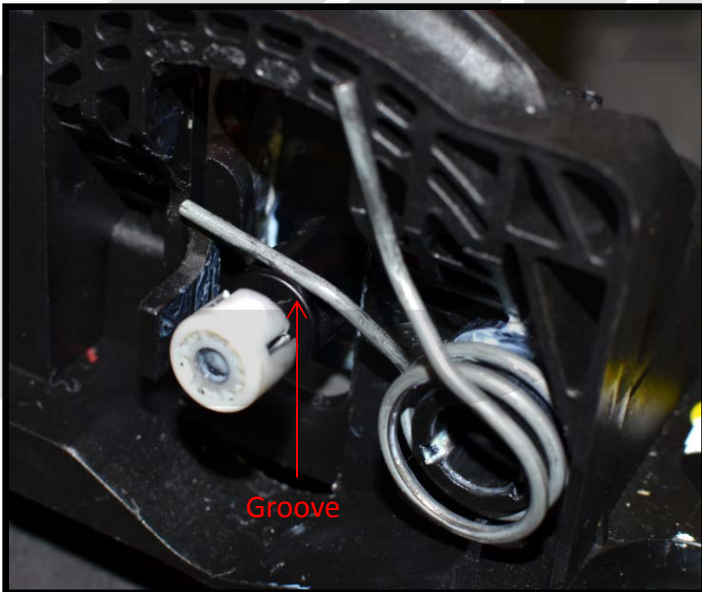
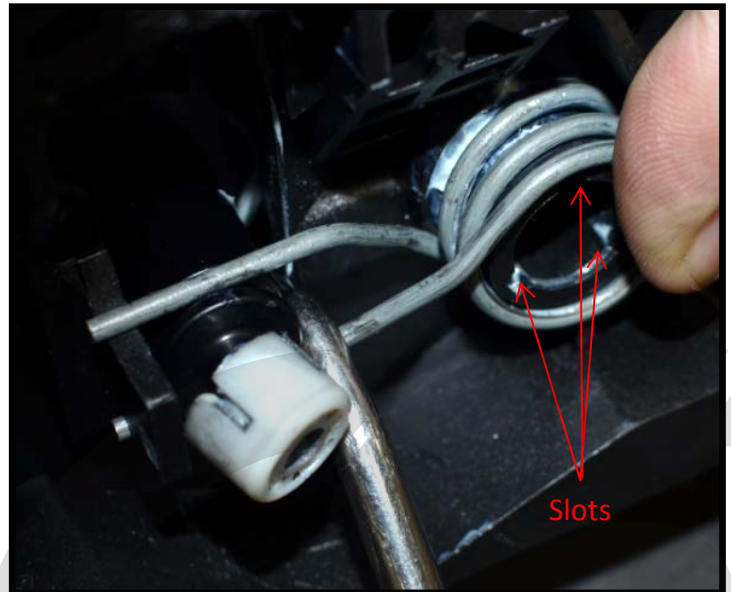

Figure 5b
Figure 5c
- d) Mount the side action spring. Place the spring around the collar and position one of the spring arms in the groove of the shifter side action arm, shown in Figure 5b. Using a screwdriver or large pick, pull the other spring arm around and down below the shifter side action arm, shown in Figure 5c. Using your other hand to hold the spring around the collar.